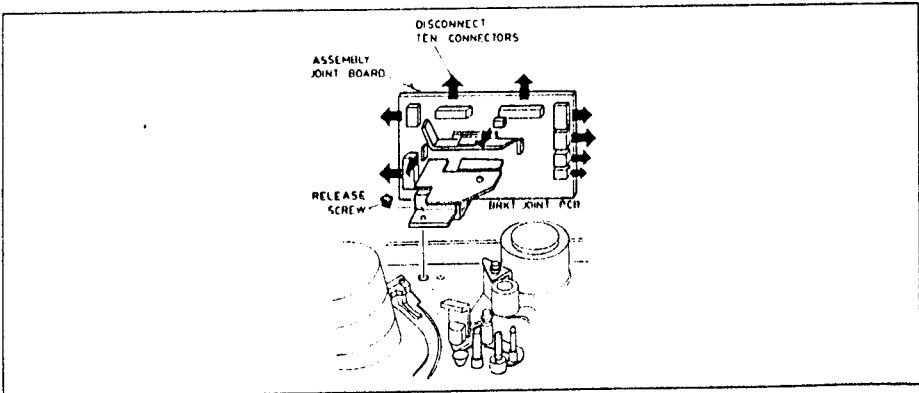

Fig. 9 Pwb-Deck Joint (G-7) Removal
2-1-9. PWB-Deck Joint (G-7) Removal (Fig. 9)
2. Disconnect ten (10) connectors (Fig. 9)